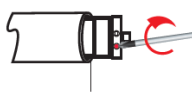

Fig 7.
- Rotate the top adjusting knob clockwise until the blind reaches your desired setting. (Fig 7.)